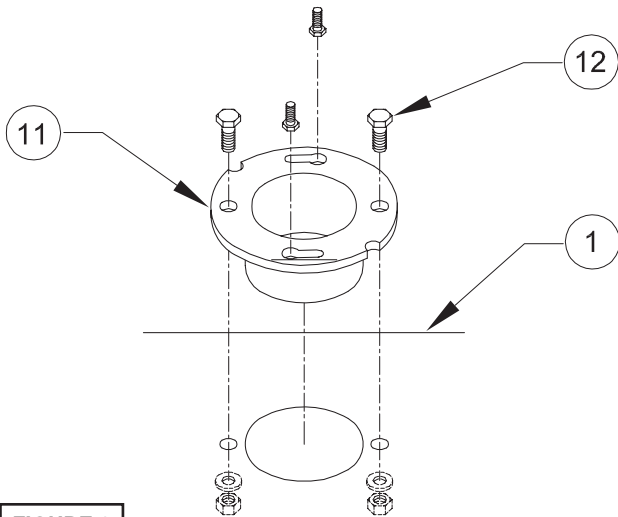

FIGURE 2
Install cast iron closet flange (11), lip side down, onto basin (1). Attach 1-3/8" bolts (12) through holes in flange; 2-1/4" toilet bolts will be installed through the closed slots. Make sure to align closet bolt slots to allow installation of closet bowl in desired direction. Seal flange to unit using a water proof caulk. (It is necessary that this is a waterproof seal.) See Figure 2.